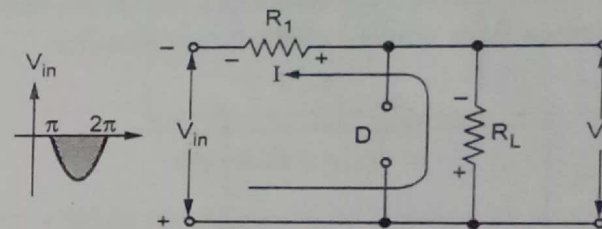

Fig. Q.43.2 Operation during negative half cycle
- During negative half cycle of input, the diode is reverse biased and acts as open circuit. The entire current flows through R_L as shown in the Fig. Q.43.2.